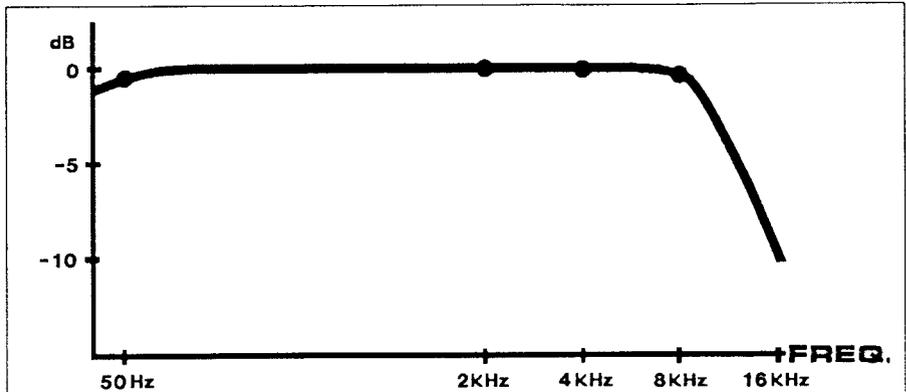
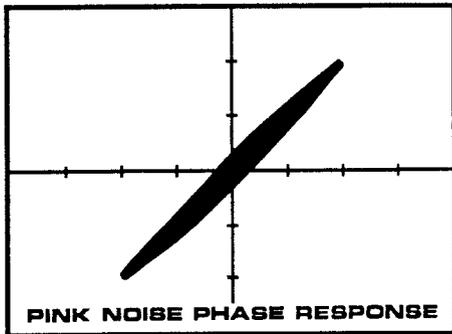

Figure 9. Checking High Frequency Response on a Real Time Analyzer with a Focus, "P Tone," or Pink Noise Source: (Measured at Preamp TP-L)
Figure 10. Azimuth Adjustment Viewed on Oscilloscope While Running HF Test with a Focus, Type I test film, or Pink Noise Source: Adjust for Thinnest Display
(H) Connect a REAL TIME ANALYZER to the test jack "TP L" on the PREAMP. Run a FOCUS, "PTONE" or PINK NOISE film and adjust the focus of the soundhead optics for the best high frequency response on the analyzer (Figure 9). At the same time, adjust the azimuth for the thinnest display on the oscilloscope (Figure 10). The focus and azimuth adjustments interact, so it will be necessary to keep adjusting both until the best combination is achieved.